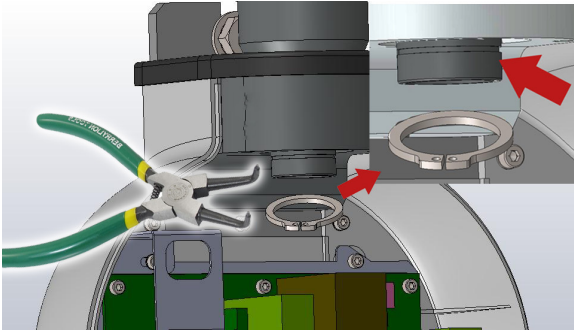
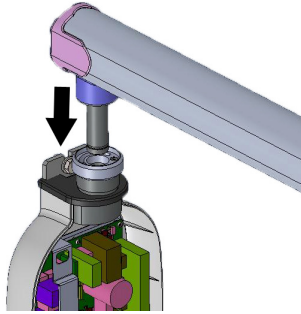

Figure 73
Figure 74
- Remove the circlip of the straight arm as shown in Figure 73 and remove the straight arm from the base unit as shown in Figure 74.
- Take the new straight arm and fix it on the base unit as shown in Figure 74 and lock the straight arm to base unit with circlip using 90 deg angled circlip pliers as shown in Figure 73.